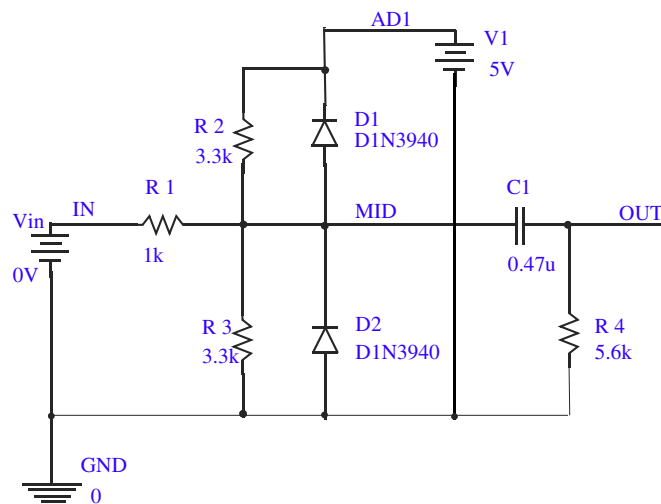

Figure 2-5 Diode clipper design
This section describes how to use Project Manager to create a design project and then use Design Entry HDL to create the simple diode clipper design shown in Figure 2-5.
5. Move the pointer to the correct position on the schematic page (see Figure 2-5 on page 87) and click to place the first part.
- resistors (R)
- capacitor (C)
5. Select `0` in the *Cells* list box and place the ground part (0) as shown in Figure 2-5 on page 87.
6. Continue connecting parts until the design is wired as shown in Figure 2-5 on page 87.